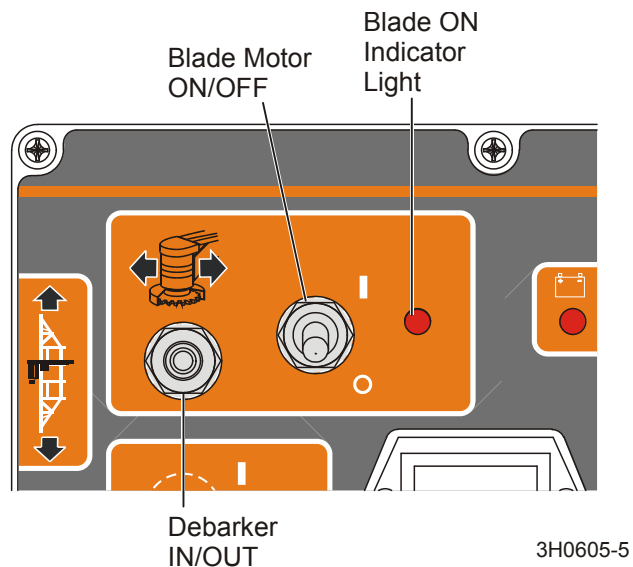

**FIG. 4-2**
**See Figure 4-2.** The debarker is equipped with a locking pin located where the debarker frame pivots in the mounting blocks. One hole location is provided for the locking pin. Turn the locking pin to the left to lock the debarker in place when towing the sawmill. Turn the locking pin to the right to unlock the debarker while the debarking is required during sawing.
**Before operating the debarker,** make sure the locking pin is secured in its travel position. Turn the key switch to OFF (0) and remove the key. Pull the debarker out to relieve pressure on the locking pin. Pull the pin up and rotate so the small roll pin is aligned with the disengaged position. Release the locking pin.
**Before towing the sawmill,** lock the debarker in the travel position. Turn the key switch to ACC (3) and use the debarker in/out switch to move the debarker all the way in. Turn the key to OFF (0) and remove the key. Push the debarker in until the travel position hole aligns with the locking pin. Pull the pin up and rotate until the small roll pin is aligned with the travel position slot. Release the locking pin.
**To move the debarker out of the way during sawing,** turn the key switch to ACC (3) and use the debarker in/out switch to move the debarker all the way out.